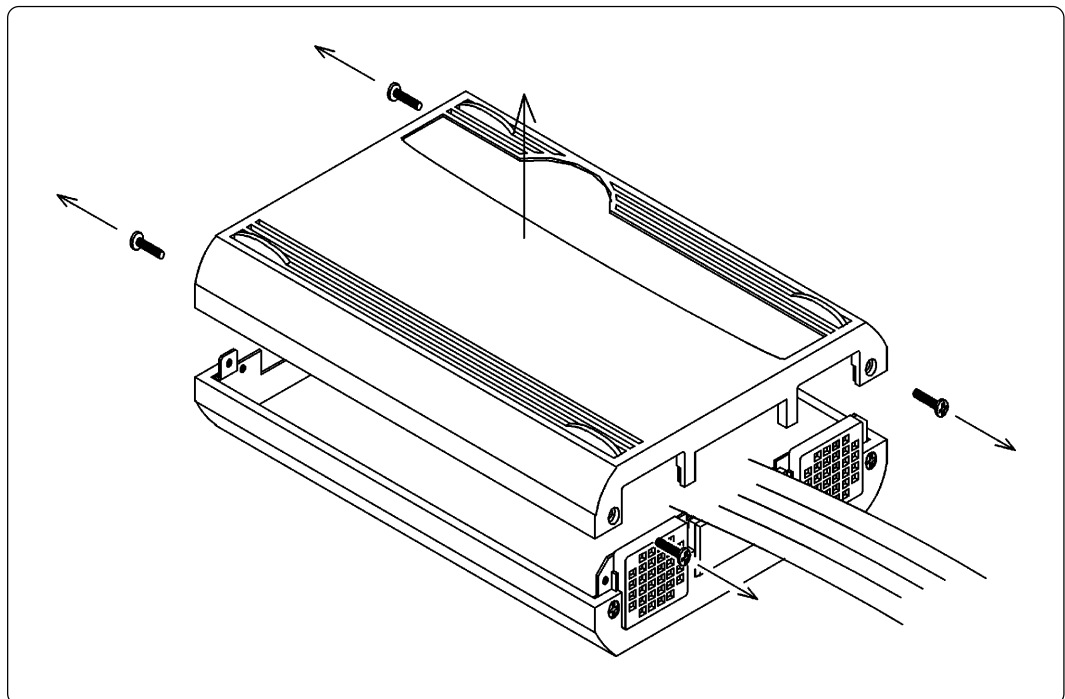

Figure 3.1 Removing the upper cover
- (1) Remove the four screws of both sides of this product and lift off the upper cover. (see Figure 3.1)
- (2) Set the jumper switches.
- (3) Replace the upper cover and secure the four screws.